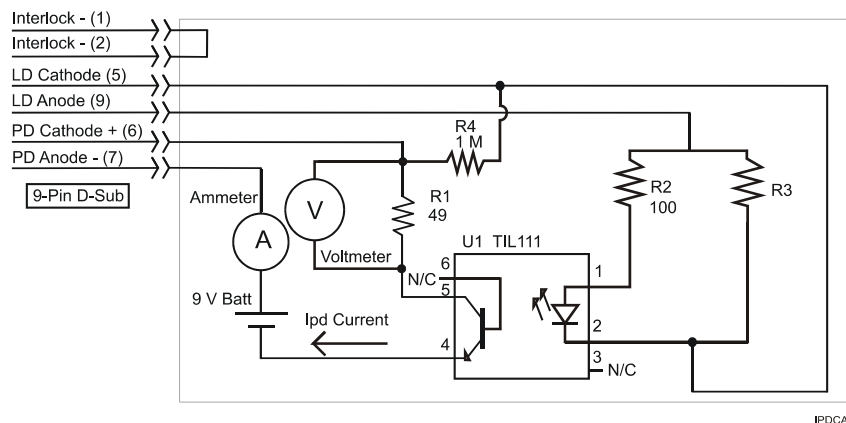

Figure 5.1 I_{PD} Calibration Circuit
You must connect various loads and circuits to the outputs of each controller for the calibration procedure. A schematic is shown in Figure 5.1 for the photodiode calibration circuit with the required components listed in Table 5.2 on page 115. Also, the devices required for other calibration loads are listed in Table 5.2.
| PHOTO-DIODE MONITOR CALIBRATION (See schematic in Figure 5.1 on page 114) | |
- 1 With the LASER output off, connect a calibrated ammeter to the PD Anode output of the Laser Controller output connector (9 pin on rear panel), and connect the circuit of Figure 5.1 on page 114 to the LASER and PD outputs with the correct load resistor for the controller model you are calibrating (See Table 5.2 on page 115).